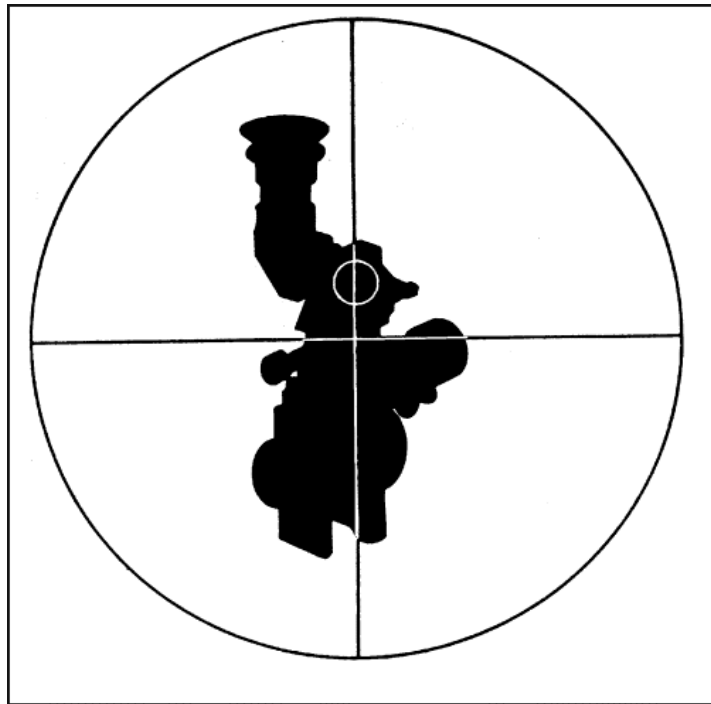

Figure 2-30. Sighting on the mortar sight.
- c. Each gunner repeats the announced deflection for his mortar, places the deflection on his sight (using the red fixed scale), and re-lays on the sight of the base mortar. When the lens of the base mortar sight is not visible, the gunner lays the vertical cross line of his sight on one of the other three mortar sights (Figure 2-30). He is laid in by this mortar once it is parallel to the base mortar sight unit. He then announces, "Number one (or three), ready for recheck."